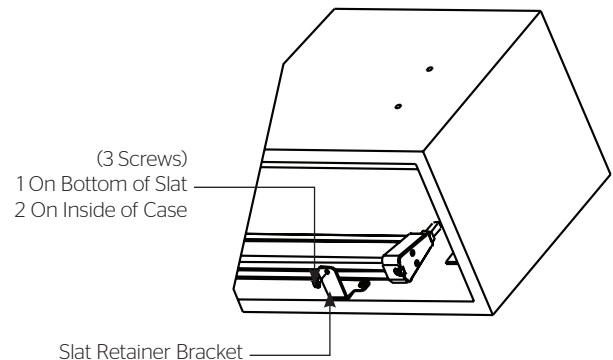

Figure 2
4. Remove the retainer screws from the slat bar before the case has been installed (Fig. 2).